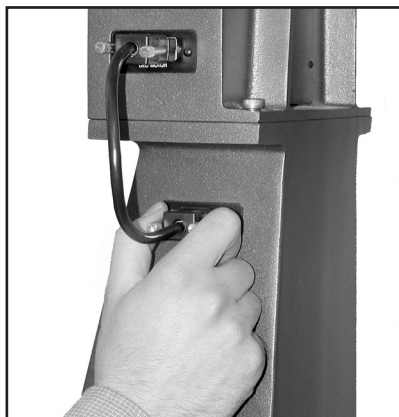

Fig. 36: Plug in the DB-9 connectors to provide power from the Dec. motor to the fork arms.
2. 2 short cords (8" long) with DB-9 connectors are supplied to provide power to the Dec. system, the GPS, and the level sensor. Plug into the two DB-9 connectors located at the top of the sides of the fork and the Dec. casting (Fig. 36).